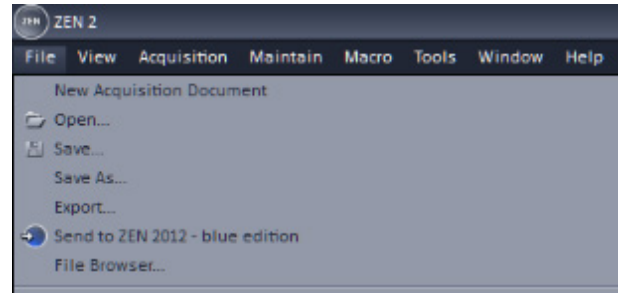

Fig. 183 File menu, Save As function
- For saving (Fig. 183) the images together with coordinates and defined regions of interest or points of interest use the .dzi file format.